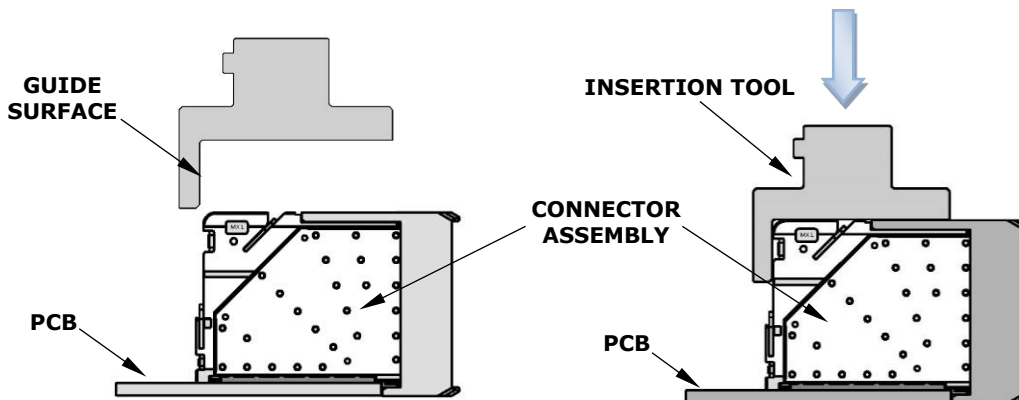

Figure 2
2. Place the application tool on top of the Orthogonal Direct RAM module with the back guide surface of the tool against the back of the Orthogonal Direct RAM module. See Figure 2.